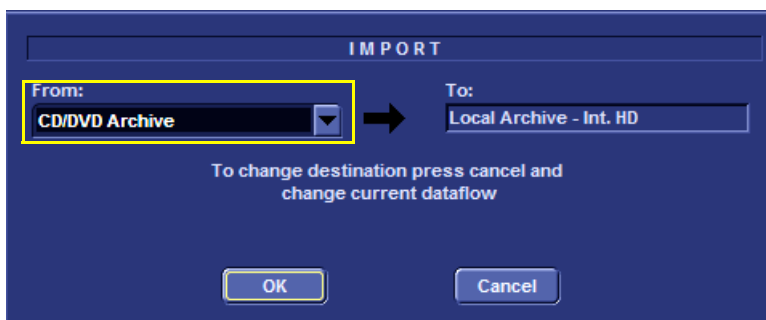

Figure 8-149 Import Screen
NOTE: A warning is displayed (Figure 8-149) - to indicate that only the database is imported to the target device.
The Import screen appears - see Figure 8-149.
- 6.) Under "From" in the Import screen, select the required media source from the drop-down list (see Figure 8-149).